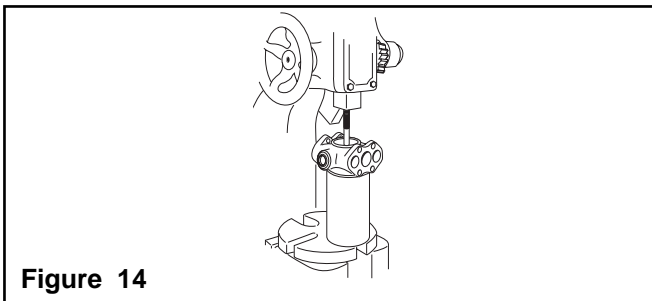

Figure 14
2. Using a metal pipe 3" in diameter by 4-1/2" high as a support fixture, place the pump on the fixture, shaft side down. Position the fixture with pump on the arbor press (See Figure 14).
3. Place a bolt 3/8" in diameter by 4-1/2" long threaded end up on the Crankshaft Cam Bearing; then, using the arbor press ram on the bolt, push the Crankshaft Assembly out of the Pump Body (See Figure 14).